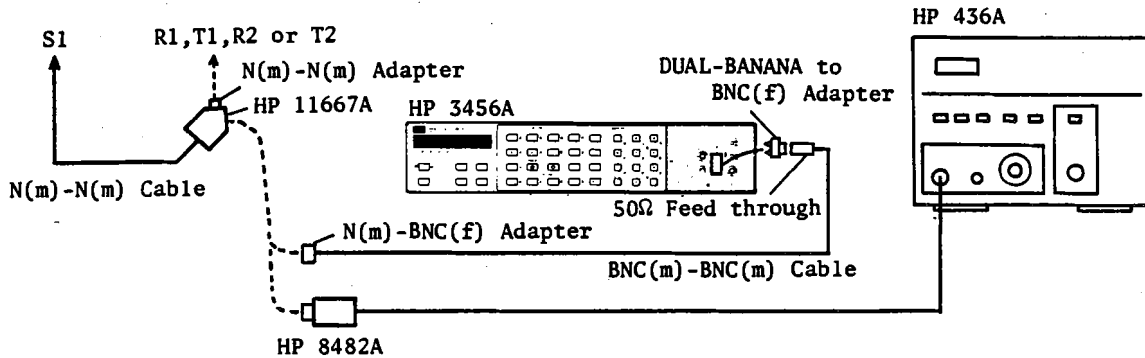

Figure 2-6. Amplitude Measurement Frequency Response Test Setup
2. Configure the test equipment as shown in Figure 2-6. Use the N(m)-N(m) Adapter to connect the Power Splitter to HP 4195A INPUT R1. Connect the 50 Ω feedthrough at the Digital Voltmeter INPUT. Connect the Voltmeter input cable to the Power Splitter.